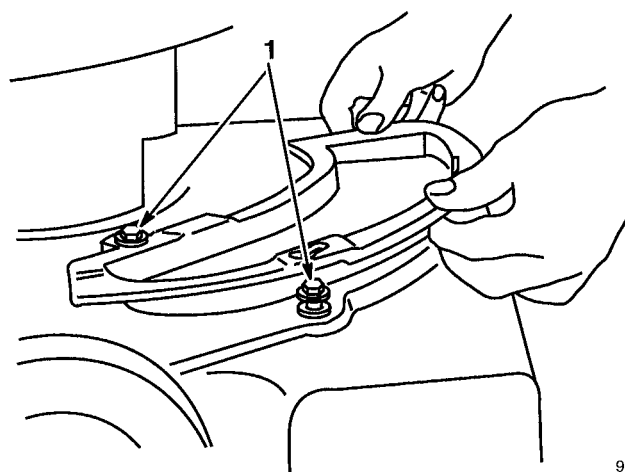

Figure 32
3. Two shoulder bolts on housing protrude through slotted holes in cover plate and do not have to be loosened or removed. Cover plate moves over shoulder bolt heads (Fig. 32).